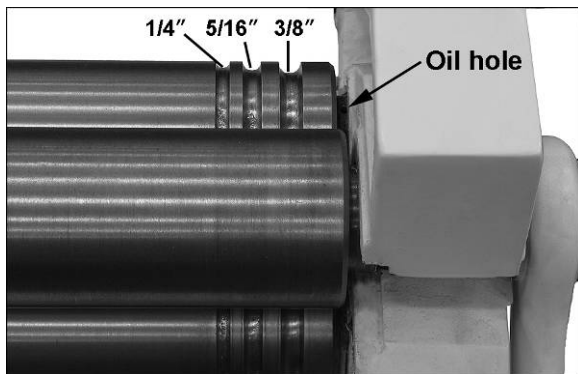

Figure 6
There are three wire grooves at the end of the pinch roll and the idler roll, to accommodate a 1/4", 5/16" and a 3/8" wire. See Figure 6.
2. Place a few drops of 30W oil into the holes at each end of the rolls (Figure 6 shows one of these). Then operate the machine for a few seconds to distribute the oil.